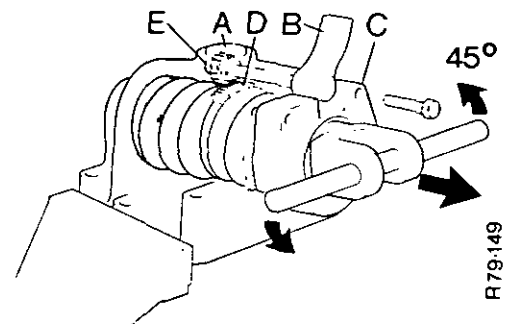

FIGURE 123. DISASSEMBLY OF THE SELECTIVE SENSING UNIT
2. Remove plug 'A' from the top of the housing (see Figure 123). Put the lever 'B' in the vertical position.